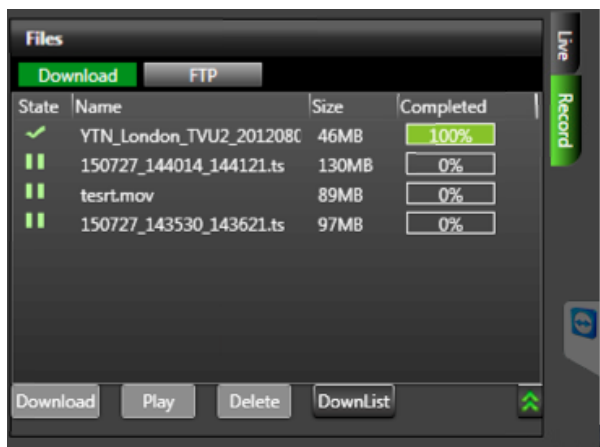

Figure 47
8. Drag and drop files to be transferred into the AutoSync folder (Figure 47).